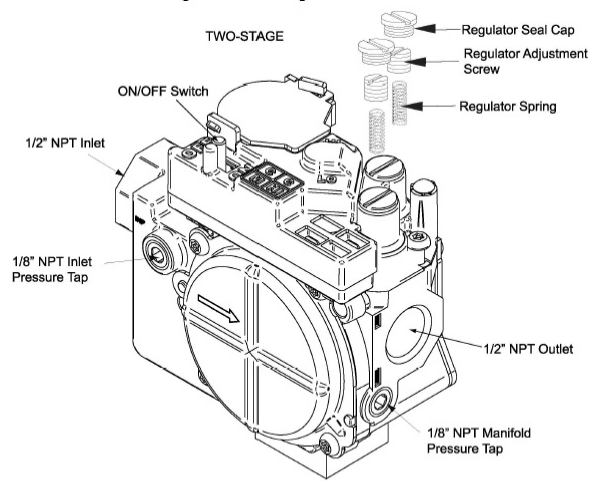
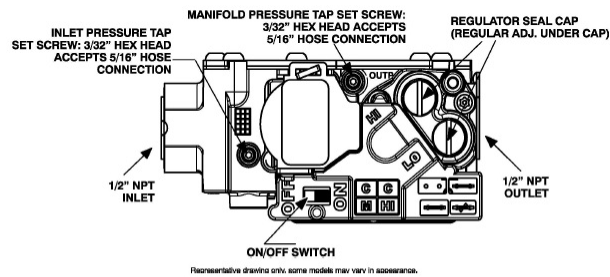
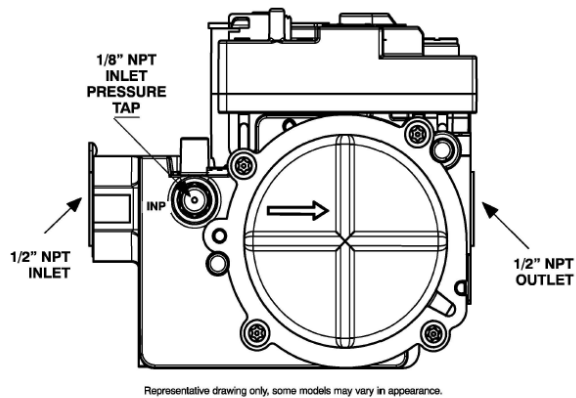

Fig. 14 – Automatic Gas Valve (Two-Stage) without Tower Pressure Ports A11472
Fig. 15 – Automatic Gas Valve (Two-Stage) with Tower Pressure Ports (view 1) A170117
Fig. 16 – Automatic Gas Valve (Two-Stage) with Tower Pressure Ports (view 2) A170132
Refer to Fig. 14, Fig. 15 or Fig. 16.
1. Remove caps that conceal adjustment screws for high heat and low heat gas-valve regulators, see Fig. 14, Fig. 15, or Fig. 16.